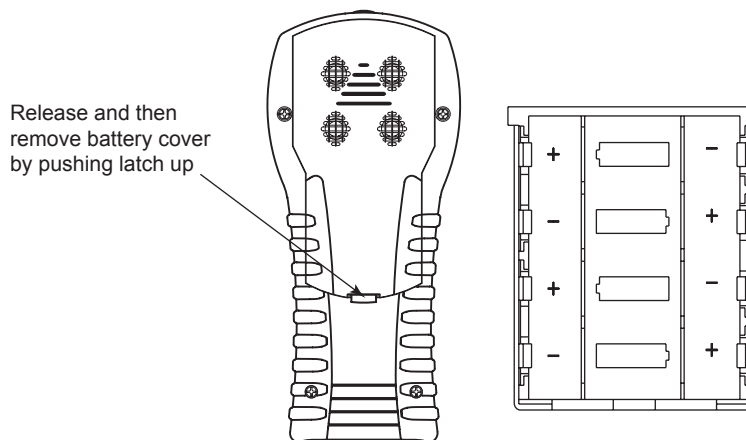

Figure 3-1. Installing Batteries
1. Remove battery cover from back of unit (Figure 3-1.)